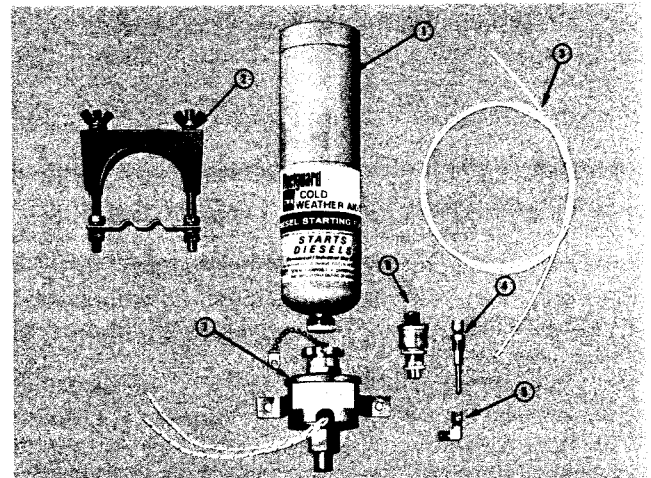

Fig. 1-12, (V11012). Electric operated valve
The electrically operated valve, Fig. 1-12, includes valve body (7), 90 degree elbow (5), clamp (2), push button switch (6), and nylon tube (3). The thermostat is mounted on the engine exhaust manifold and cuts out the valve by sensing manifold heat when the engine is running. See parts catalog for fuel cylinder (1) and fuel atomizer fittings (4). These fittings must be ordered separately, as required.